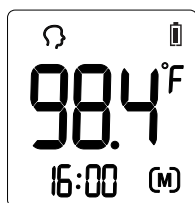

Figure 7
2. The thermometer will automatically memorize the last 30 temperature readings. Each memory also records the measurement date/time/mode icon. Each time the *Setting BUTTON* is pressed, the screen displays past readings that correspond with a number 1-30. The number 1 reflects the most recent reading, while the number 30 reveals the oldest reading stored in memory.(See Figure 7)